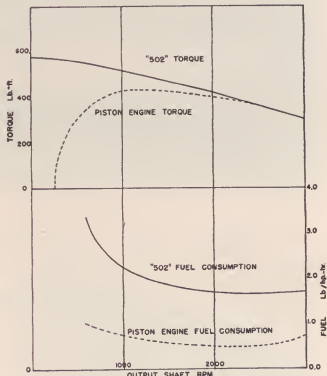

Fig. 2
The GT engine develops enormous low speed torque with the maximum occurring when the compressor turbine is at full load and the output turbine is stalled (see Fig. 2). In comparison, the Chrysler 180 bhp V-8 engine develops 312 ft.-lbs. of torque at 2000 rpm whereas the 175 bhp Boeing "502" engine develops 585 ft.-lbs. of torque at standstill.
1. High fuel consumption—twice that of gasoline engine, three times that of diesel engine. (see Fig. 2). Oil consumption is one quart in every 1000 miles.